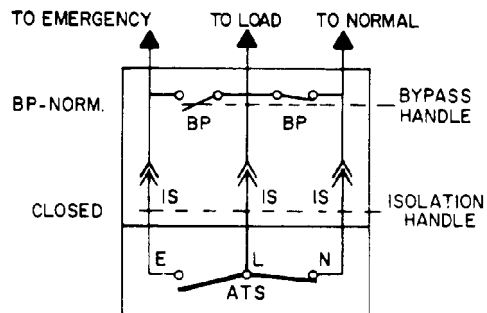

Figure 3-9. Closed position (Isolation contacts are fully engaged.)
5. Turn the **Isolation Handle** clockwise to the *CLOSE* position (Figure 3-9).